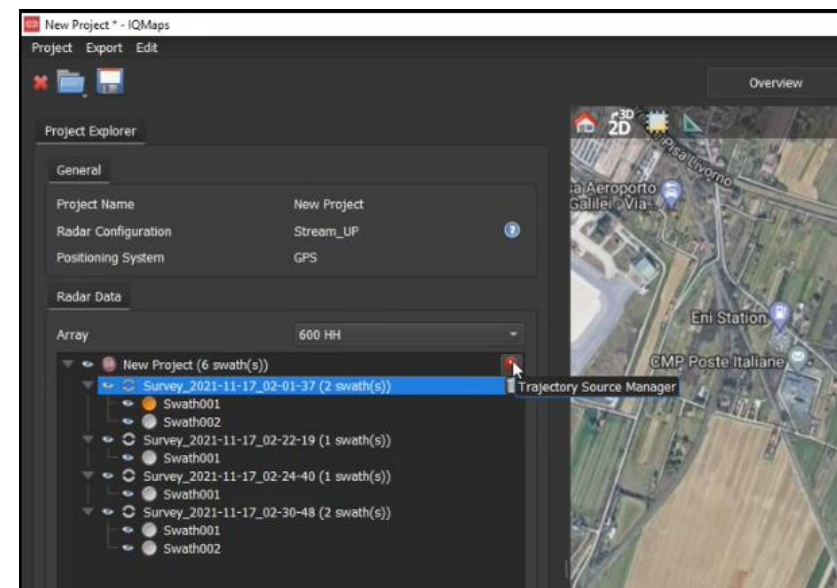

Fig. 80 – Trajectory Source Manager selection
2. Select the **Trajectory Source Manager** button  (Fig. 80);